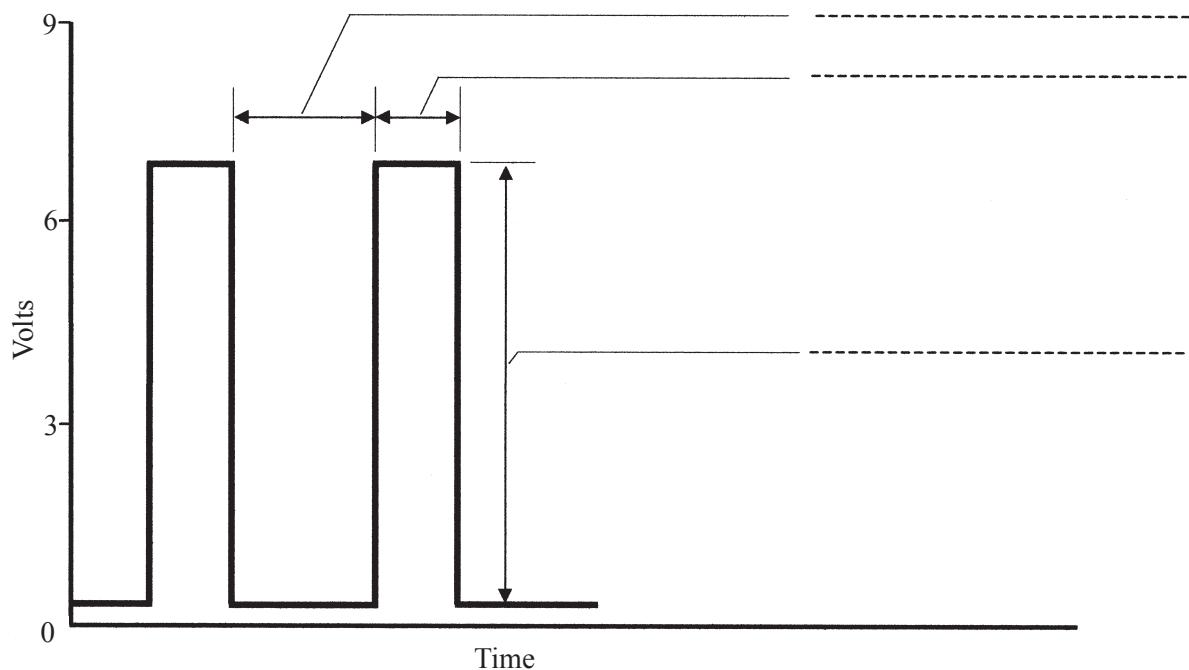

Figure 3
- (e) **Figure 3** shows the output waveform from the pulse generator.
Complete **Figure 3** by labelling the: